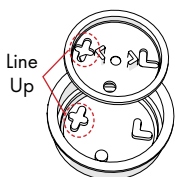

Figure 1
- STEP 5** Insert the **Plastic Disc** into the **Membrane**. **FIG 1**
STEP 7 Slide the **Bumpers** into place so that the mounting holes on the **Water Shield** line up with the mounting holes on the **Bumpers**. **FIG 1**
STEP 8 Using a **3/16" Allen key**, install the (2) **Screws** and tighten to **20 in lbs**. **FIG 1**